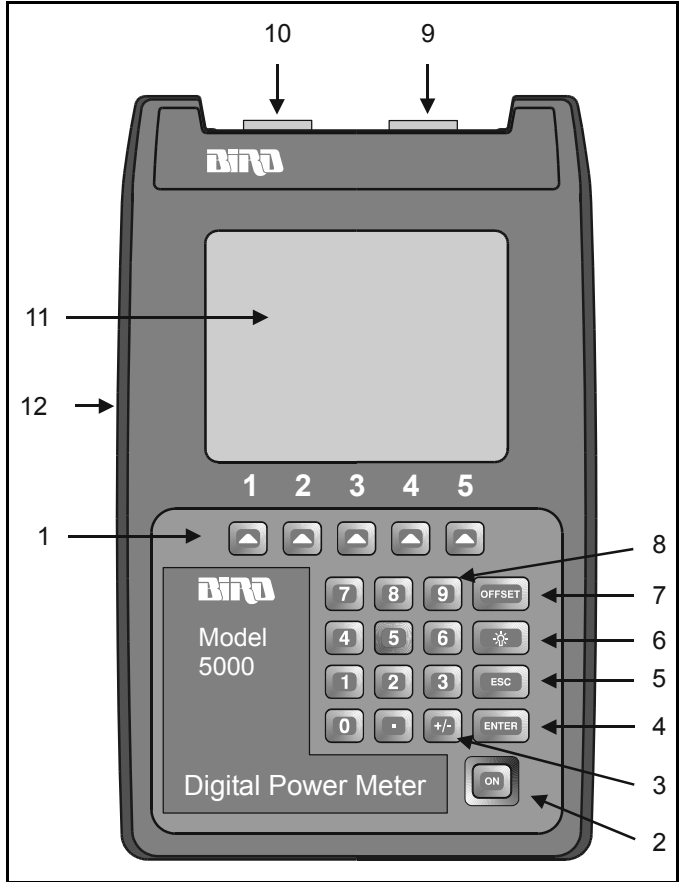

Figure 2 Component Description
Speed keys, which appear under the display, have a different label depending upon the function selected. The names appear at the bottom of the display, directly above the corresponding key. The key names for speed keys are set in bold italic typeface, e.g. *Press the **SCALE** Key.* In this manual, speed keys will also be referred to by number, with speed key 1 being the key on the left. Figure 2 on page 2 shows these speed key numbers.
- **AC Mains Adapter** — To use the ac adapter, insert the adapter’s barrel connector into the DPM’s external dc connector (See Figure 2 on page 2). Insert the adapter plug into a wall receptacle.